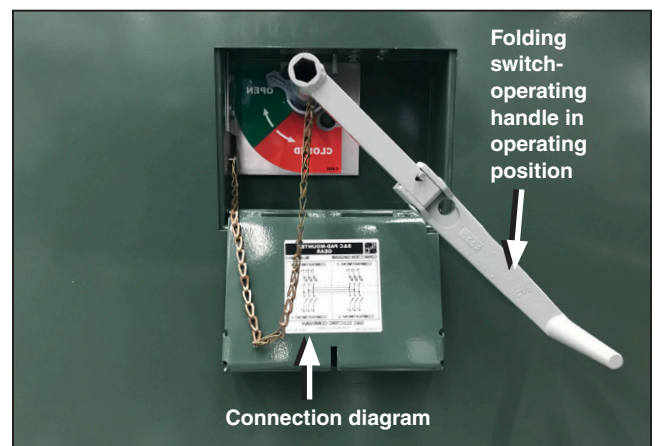

Figure 11. The switch operating handle installed.
- STEP 3.** Rotate the handle in the appropriate direction to open or close the switch, and check the SWITCH POSITION indicator to verify the switch is in the desired position. See Figure 11.